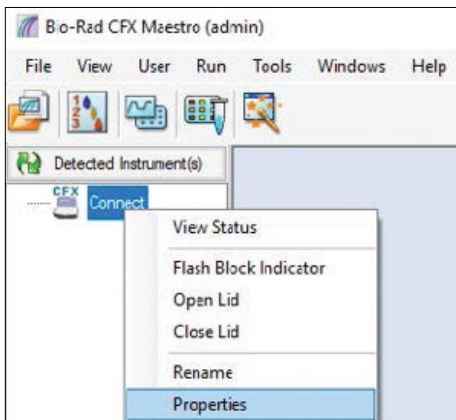

Fig. 5. Navigating in the Detected Instrument(s) pane window.
1. Right click **CFX Connect** in the Detected Instrument(s) pane, then select **Properties** (Figure 5).